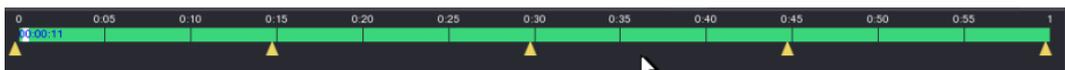

Figure 5-103
Step 5 Start playing back splices. See Figure 5-103.